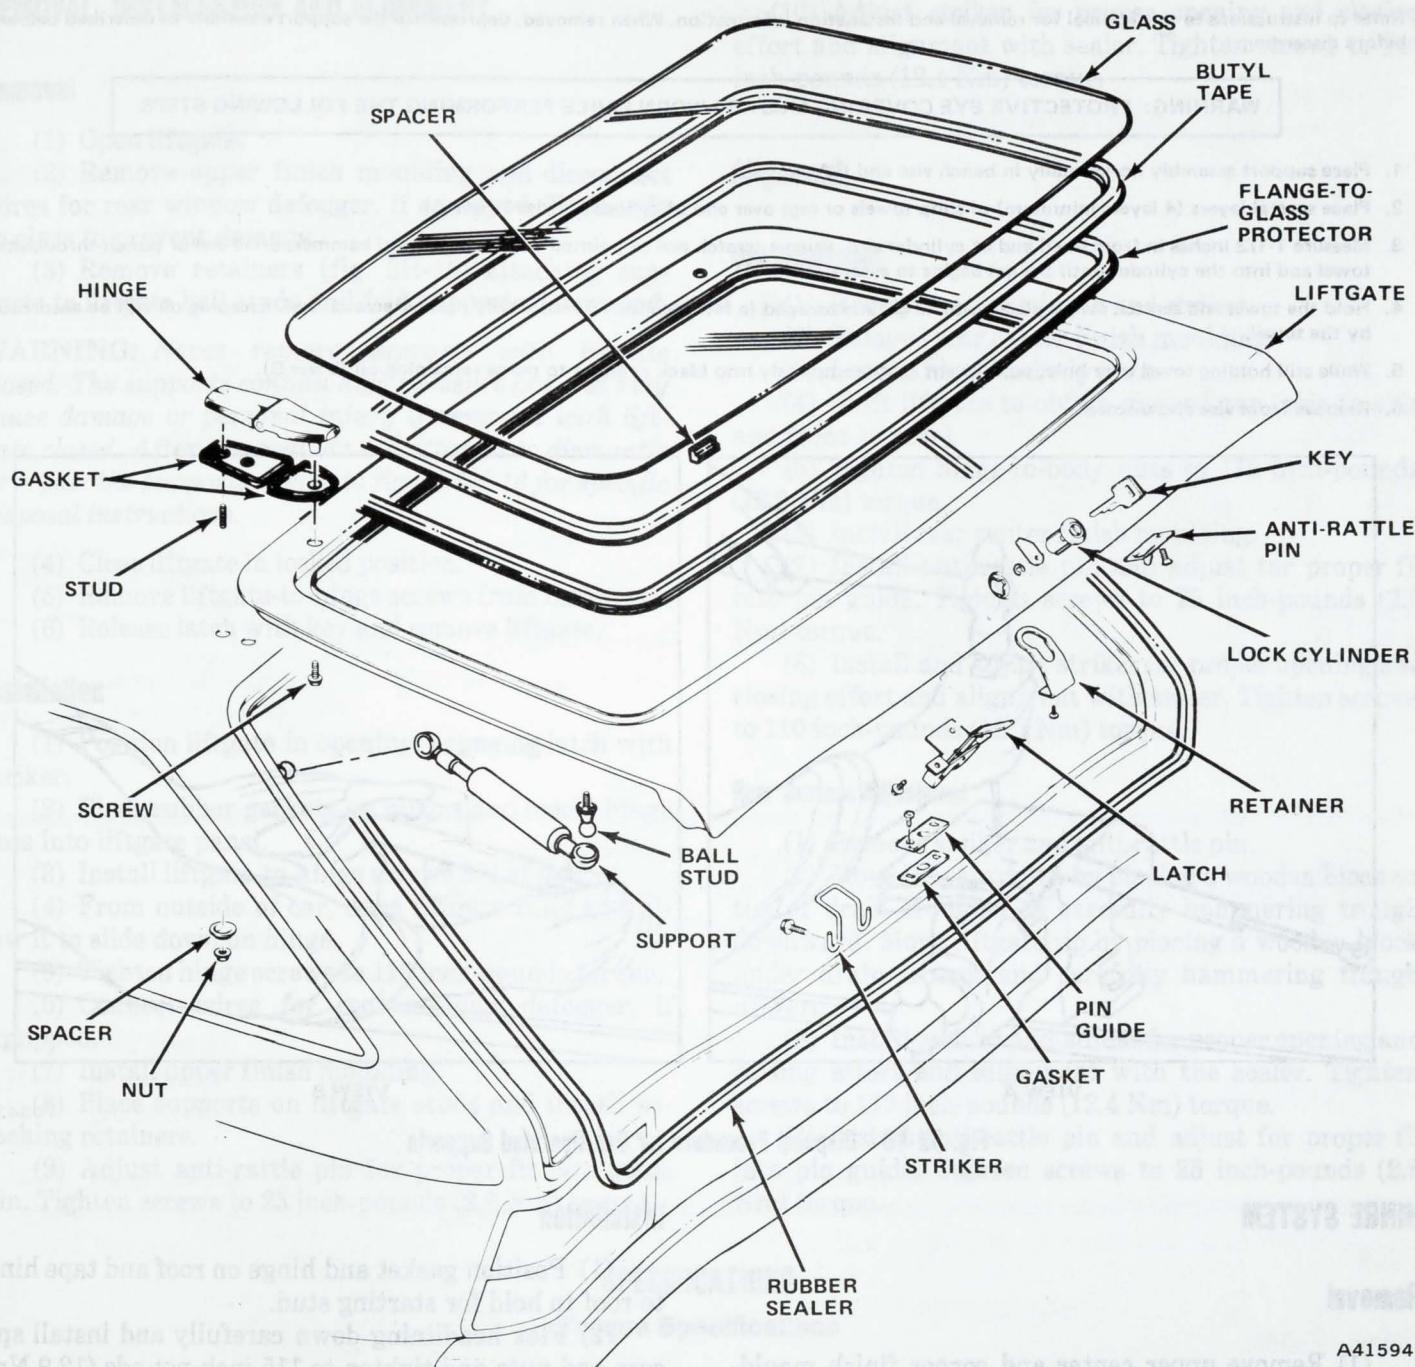

Fig. 3H-15 Concord Wagon Liftgate Components
The striker (fig. 3H-15) provides a secure retention point for the latch and limits movement of the liftgate. It consists of a formed wire loop, cushioned with a rubber sleeve, attached to the back panel assembly with two screws.
WARNING: Never remove supports with liftgate closed. The supports contain high pressure gas and may cause damage or personal injury if removed with liftgate closed. After removal, do not attempt to dismantle or repair the supports. Refer to figure 3H-16 for specific instructions for disposal.
- (1) Prop liftgate in full-open position.
(2) Remove retainers (fig. 3H-15) attaching support ball sockets to ball studs.
(3) Pull support ball sockets from ball studs and remove support.